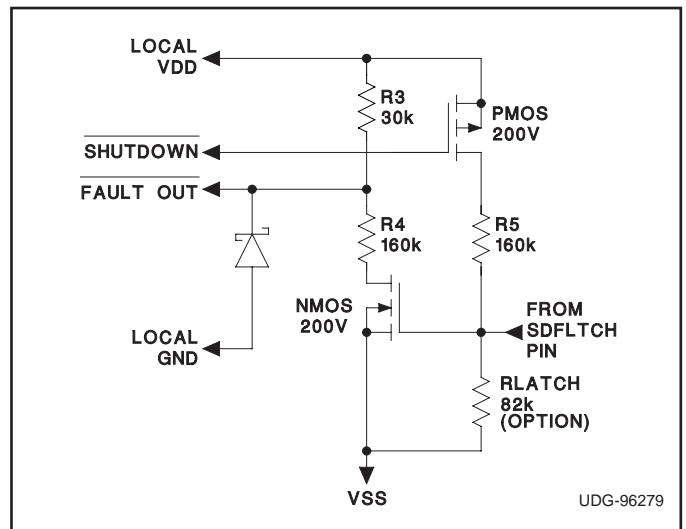

Figure 6. Possible Level Shift Circuitry to Interface to the UCC3921, showing component values selected for a typical telecom application.
Some type of circuit is needed to interface with the UCC3921 via SDFLTCH, such as opto-couplers or level shift circuitry. Figure 6 depicts one implementation of level shift circuitry that could be used, showing component values selected for a typical -48V telecommunication application. There are three communication conditions which could occur; two of which are Hot Swap Power Manager (HSPM) state output indications, and the third being an External Shutdown.
- 1) When open, and under a non-fault condition, SDFLTCH is pulled to a low state. In Figure 6, the N-channel level shift transistor is off, and the FAULT OUT signal is pulled to LOCAL VDD through R3. This indicates that the HSPM is not faulted.
- 2) When a fault is detected by the fault timer or under-voltage lockout, this pin will drive to a high state, indicating that the external power FET is off. In Figure 6, the N-channel level shift transistor will conduct, and the FAULT OUT signal will be pulled to a Schottky Diode voltage drop below LOCAL GND. This indicates that the HSPM is faulted. The Schottky Diode is necessary to ensure that the FAULT OUT signal does not traverse too far below LOCAL GND, making fault detection difficult.
If a $5k < R_{LATCH} < 250k\Omega$ resistor is tied between SDFLTCH & VSS, as optionally shown in Figure 6, then the latched operating mode (described earlier) will be invoked upon the occurrence of a fault.